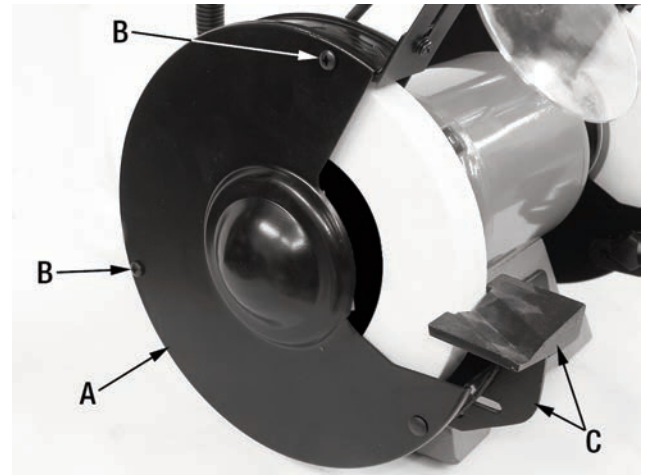

FIGURE 10
1. Remove the corresponding grinding wheel cover (A) Fig.10 by removing the long screws (B). Removing the tool rest (C) will be necessary, reposition the spark shield away from the grinding wheel.
5. Reinstall the grinding wheel cover (A) Fig.10, and reposition the tool rest and spark shield assemblies.